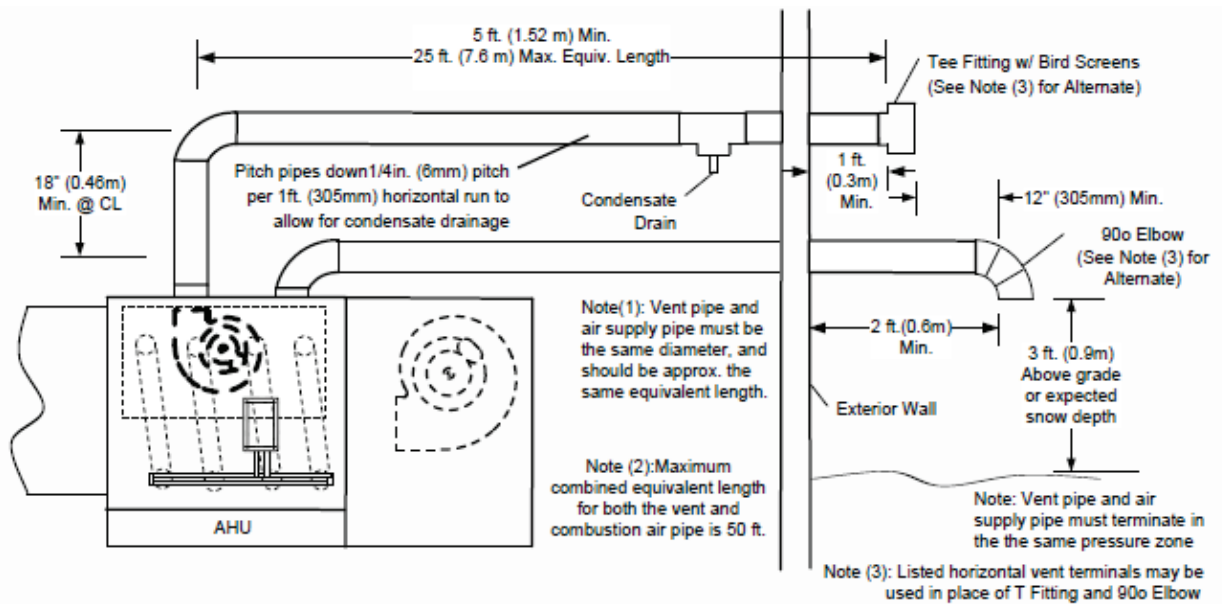
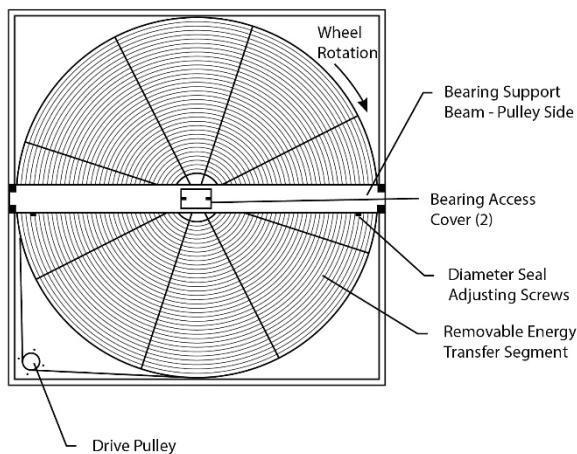

Figure 36 – Indoor Horizontal Venting Separated Combustion
Figure 37 - Energy Recovery Wheel
5. See Figure 36 and Figure 37 for recommend vent terminations and air inlet fittings for venting configuration. Proper installation of air inlet and flue gas exhaust piping are essential to proper operation of the heat module.